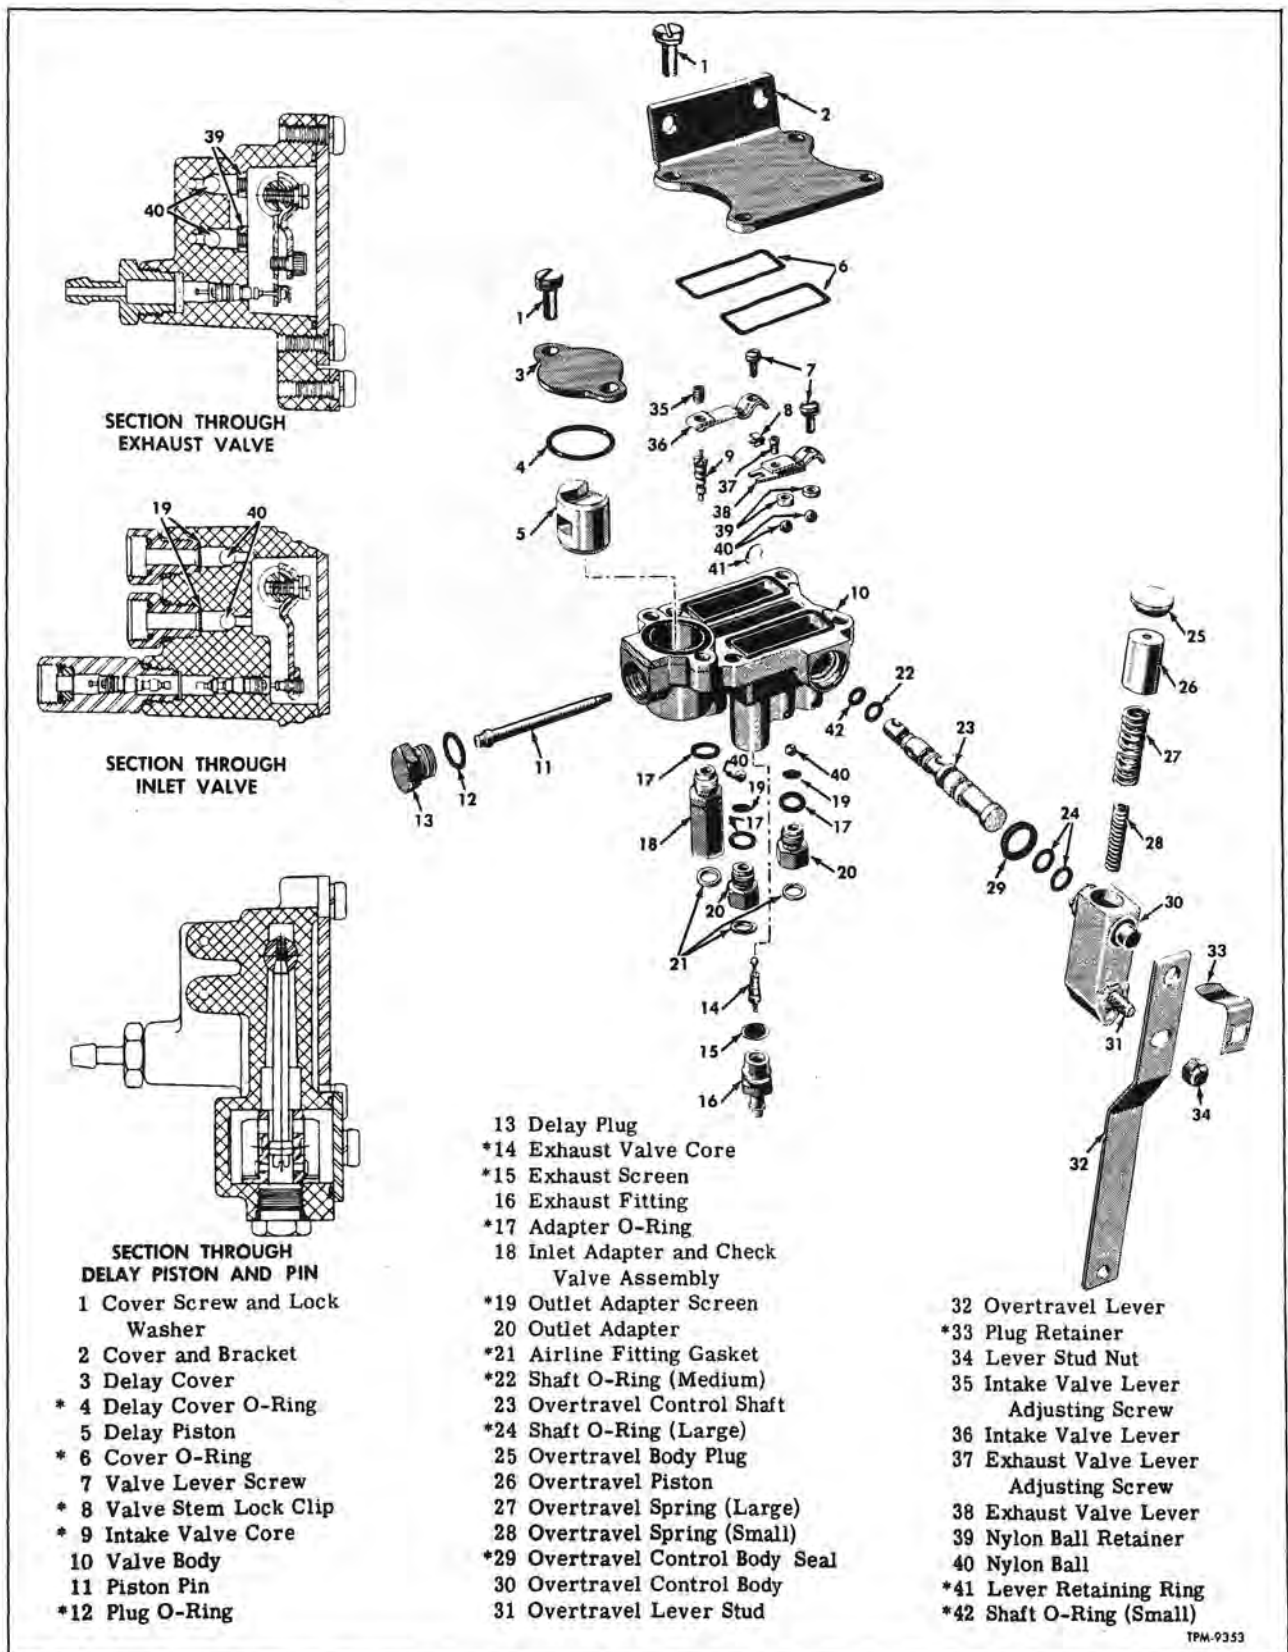

Figure 34—Height Control Valve and Components—Front
- Remove exhaust fitting (16, figs. 34 and 35) and exhaust screen (15, figs. 34 and 35) from valve.
1. Place new O-ring (12, figs. 34 and 35) over delay plug (13, figs. 34 and 35), then install plug into valve body. Tighten plug to 20-30 inch-pounds torque.
**NOTE:** (Refer to figures 34 and 35.) After obtaining proper valve adjustments, install valve cover using new rubber O-rings or gasket (6). Install new screen (19), in bellows port, then using new O-ring (17), install outlet adapter (20) into bellows port. (NOTE: On front valves, two outlet adapters (20), screens (19), and nylon balls (40) are used.) If screen (15) was removed from exhaust port, install new screen and exhaust fitting (16).
by asterisk (\*) in figures 34 and 35.
Key numbers shown in text refer to figures 34 (Front Valve) and 35 (Rear Valve). All parts common to both valves will have a common key number. Key numbers not common will be denoted by letter suffix "F" (Front) or "R" (Rear).